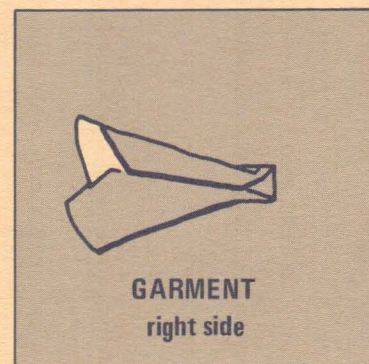
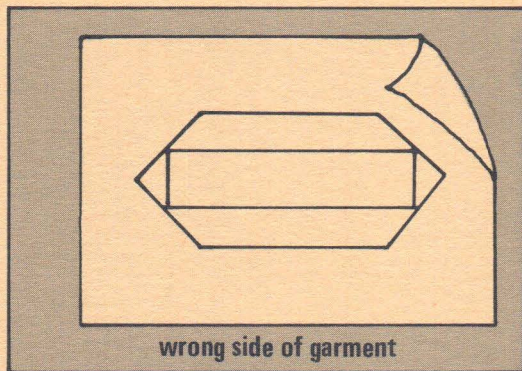

Figure 6
Figure 14
- Pull patch gently through the opening to wrong side of garment (Fig. 6).
- Pull patch gently through the opening to wrong side of garment (see Fig. 6). Press seam and organza away from opening, forming a "window." Make sure that the organza does not show from outside; this is the size of the finished buttonhole. Remove basting (Fig. 14).